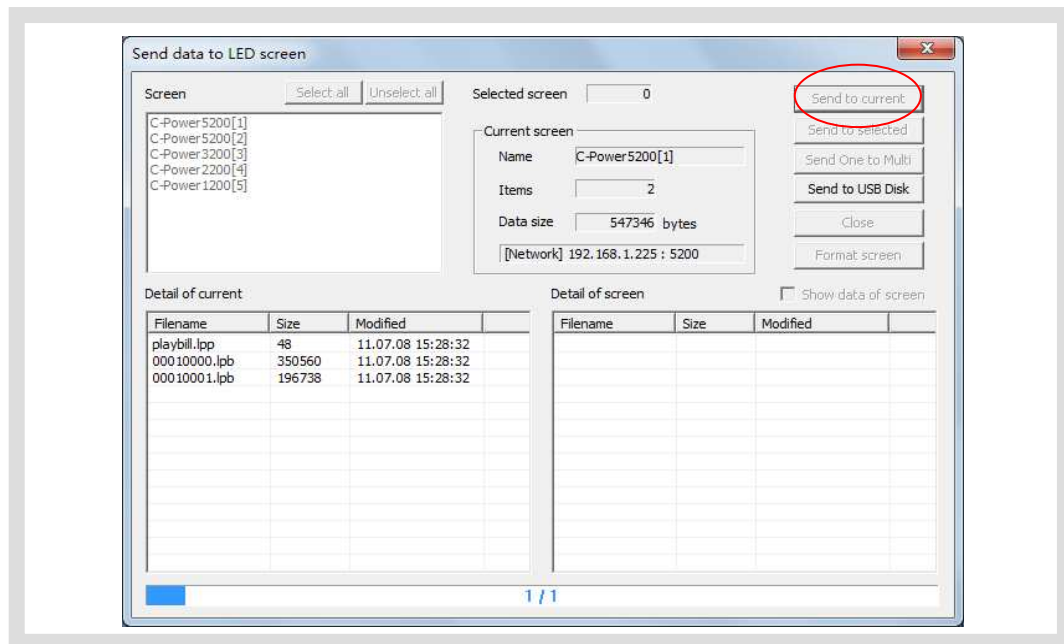
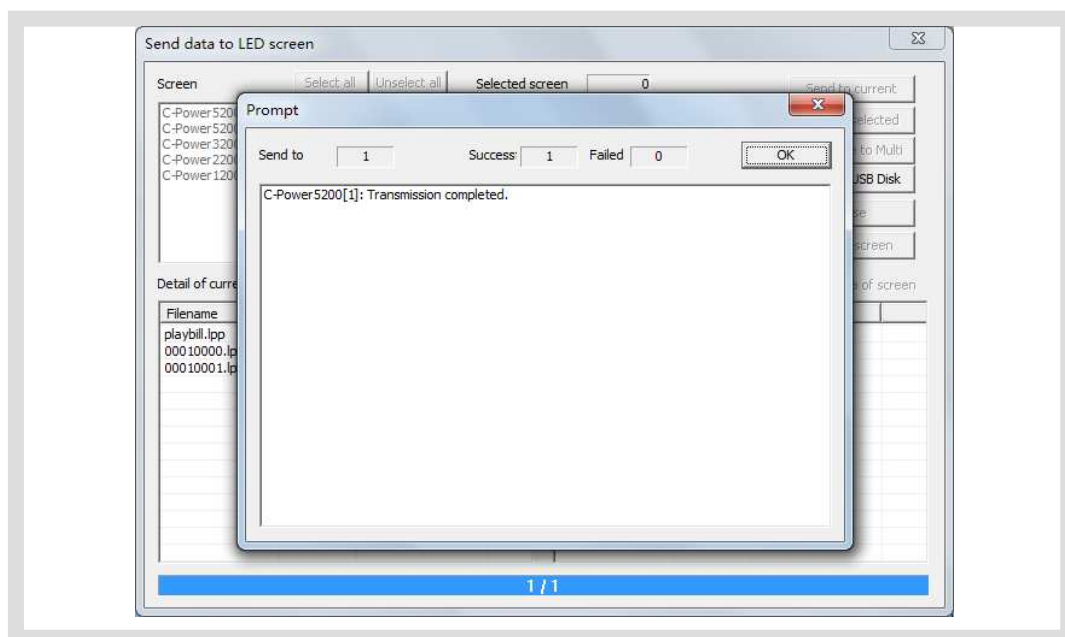

Figure36 Dialog box of sending data
Figure37 Data sending completed
- 2) When the computer has connect to the controller directly, click “Send to current” or “Send to the selected”, the computer will send the data via the network or serial cable, as shown in Figure36 and Figure37.